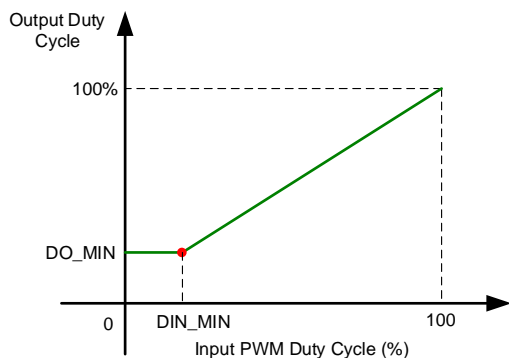

Figure 2: Speed Curve (SPD_ZERO = 0, MAX_EN = 0)
1. If SPD_ZERO = 0 and MAX_EN = 0: When the input duty cycle is below the value set by DIN_MIN, the OUT1/2 output duty cycle stays at the minimum duty cycle set by DO_MIN (see Figure 2).